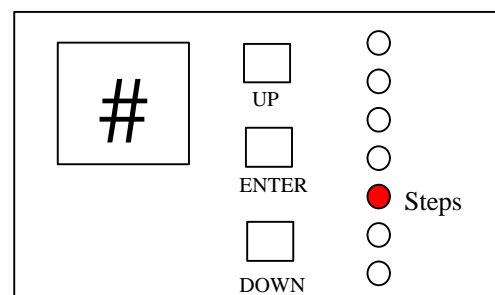

Figure 5
- Press ENTER to display the value set for this mode. The number of steps available are 2,4, and 8 (Figure 5). To adjust the STEPS value, use the UP and DOWN keys.